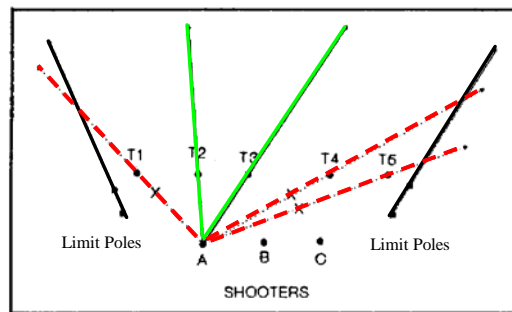

Figure 1. Shooter A may engage targets 2 and 3, but not 1, 4, or 5.
- 8.13.1.2 Limit poles will be placed 10 feet (3 meters) apart on each range. The maximum horizontal angle of bullet travel is determined by observing the pole alignment from the firing point. The horizontal angle from range centerline must not exceed the angle created by the poles (see Figures 1, 2, and 3). Red limit poles will be used to control all rifle caliber fire. Green limit poles will be used to control pistol-caliber and shotgun fire.